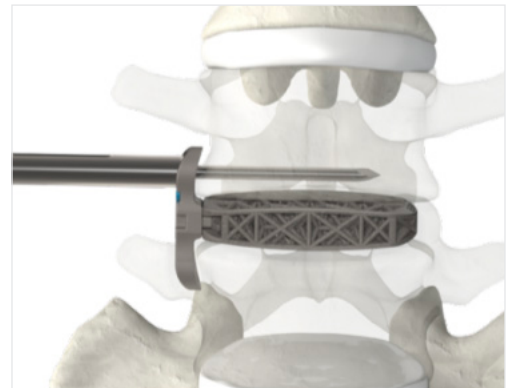

Figure 11
- ▲ The LSTS Plate Solution offers multiple Awl and Drill options for screw hole preparation (Fig. 11).